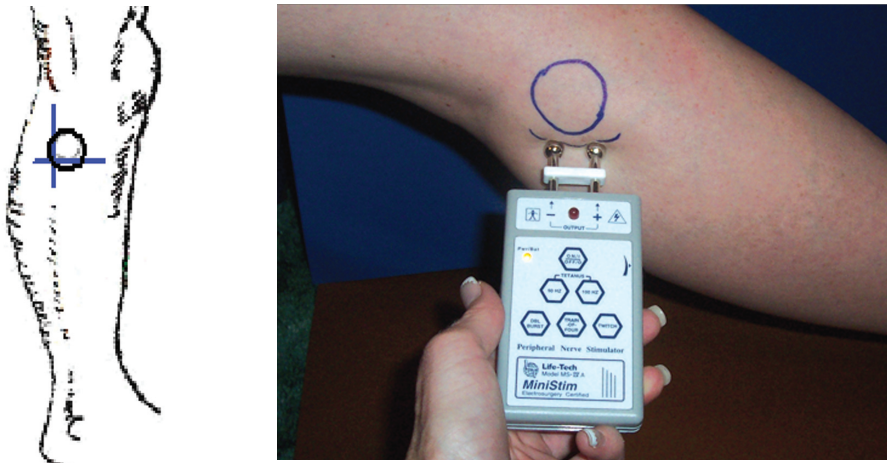

Figure 25: Initial placement of the peripheral nerve stimulator
6. Identify the intersection of a line dropped vertically behind the head of the fibular and horizontally below the head of the fibula. This is a good starting point to test for viability of the common peroneal nerve. (Figure 25)
7. Position the peripheral nerve stimulator against the leg so that the black-based silver node is posterior and the red-based silver node is anterior. Press the peripheral nerve stimulator firmly into the leg, keep the stimulator perpendicular to the leg. Gradually turn up the intensity dial on the peripheral nerve stimulator until muscle contraction is evidenced. Most often, this will be contraction of the peroneus longus when the superficial branch of the common peroneal nerve is stimulated. (Figure 25)